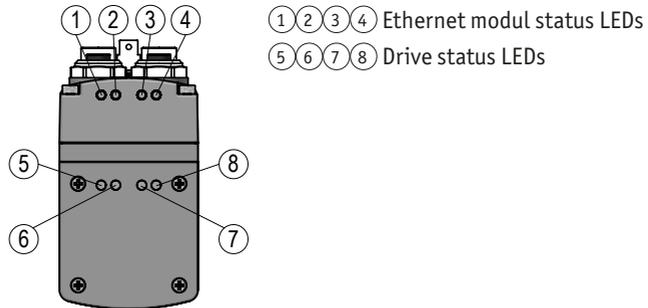

Fig. 12: Status Display
With factory settings, the LEDs ⑤⑥⑦⑧ (Fig. 12) inform about the drive's status. You can configure the functions of the drive status LEDs.